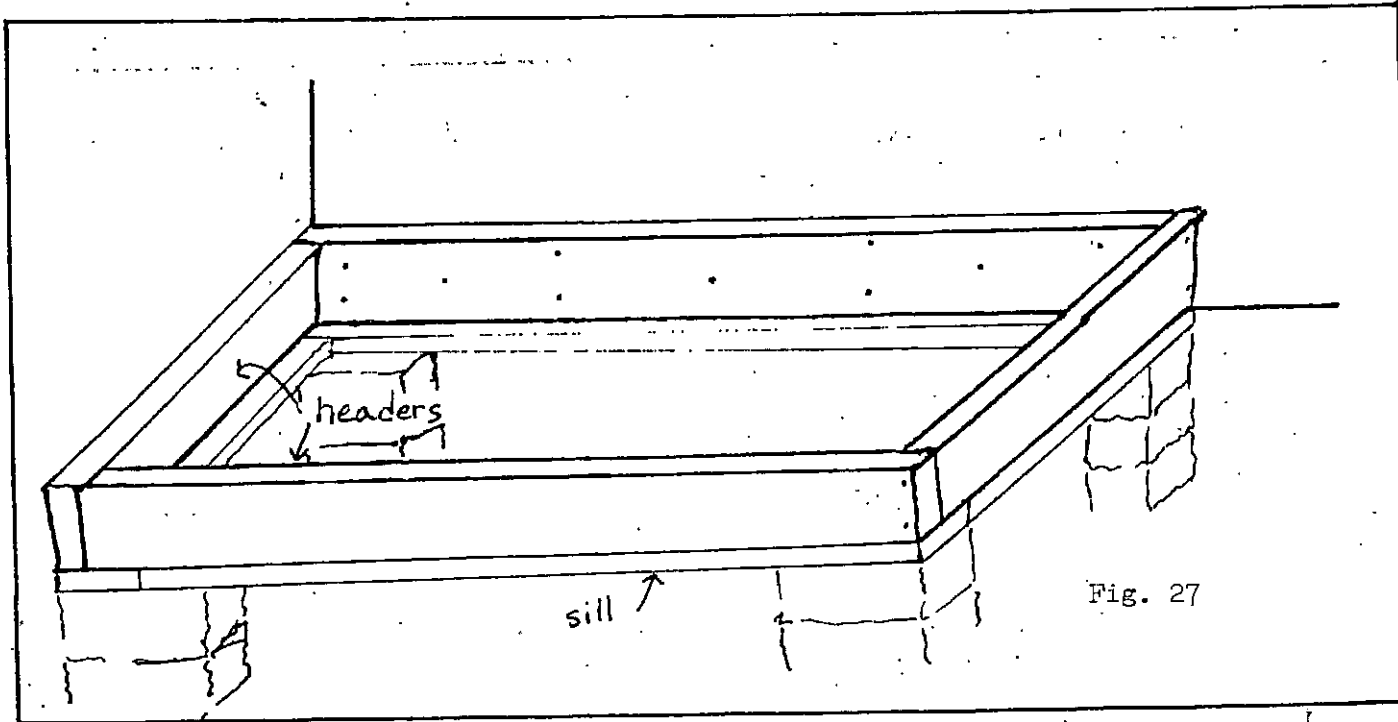

Fig. 27
3. Use 16d or 20d nails on the frame. Lay out your sills, connecting them with a toenail in each side. Then lay out and connect your headers on the outside of the sills, nail to each other and then lightly to the sills. Keep it as level and square as possible. A test to see if the frame is square is to measure diagonally from corner to corner. If all angles are square, the diagonal measurements will be exactly equal. (See Fig. 27)